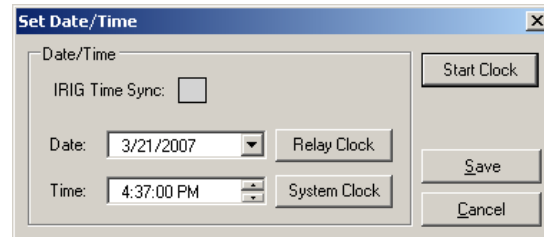

Figure 4-6 Setup Date/Time Dialog Screen
The clock is disabled when shipped from the factory (indicated by "80" seconds appearing on the clock) to preserve battery life. If the relay is to be unpowered for an extended length of time, the clock should be stopped (from Diagnostic Mode or IPScom Figure 4-6). If the IRIG-B interface is used, the hours, minutes, and seconds information in the clock will be synchronized with IRIG-B time information every hour.
1. From the IPScom Main Screen menu select **System/Setup/Setup Date & Time**. IPScom will display the Setup Date/Time dialog screen (Figure 4-6).